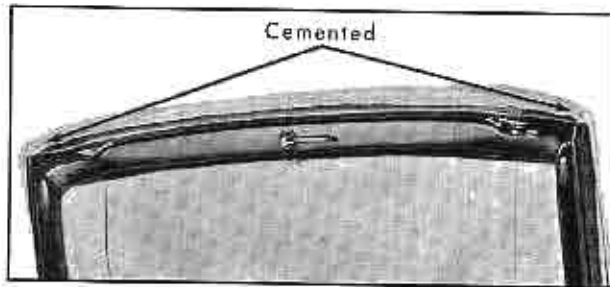

Fig. 3-103 Front Roof Rail Tacking Surface
6. At the front of the body, raise the front roof rail; remove the retainers and weatherstrip; and detach the top material from the rail. In Fig. 3-103 the weatherstrip has been removed to expose the tacking surface on the front roof rail.